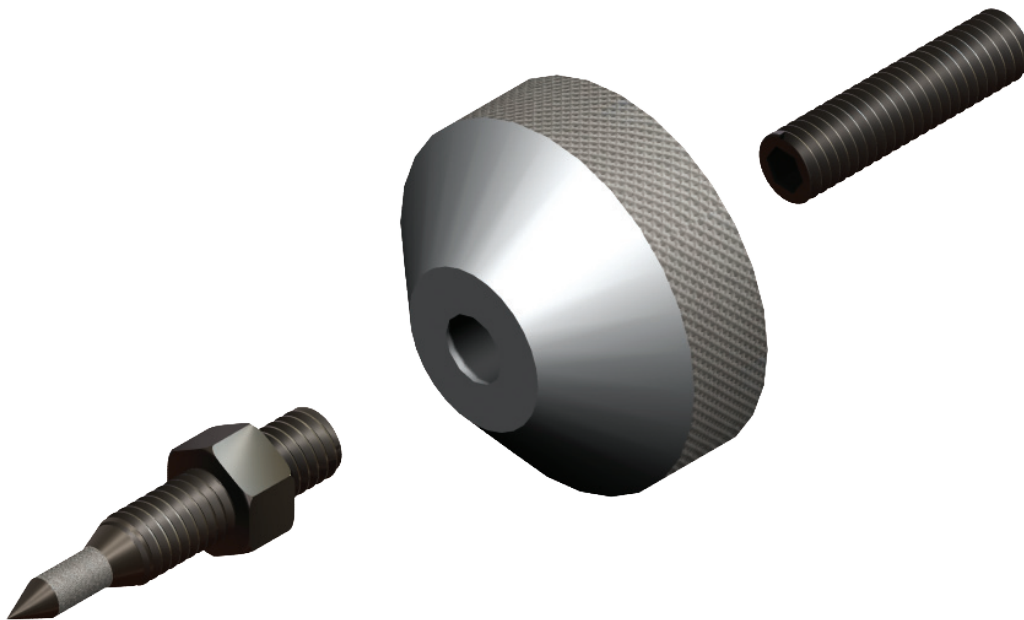

FIGURE 13—SPIKE/DIODE ASSEMBLY
3. Place the set screw into the other end of the diode with the Allen head toward the spike. This will ensure that if for any reason you have to remove your Alexia spikes, you will be able to withdraw the set screw safely using the supplied Allen wrench. Screw the set screw into the diode until it meets the spike (see Figure 13).